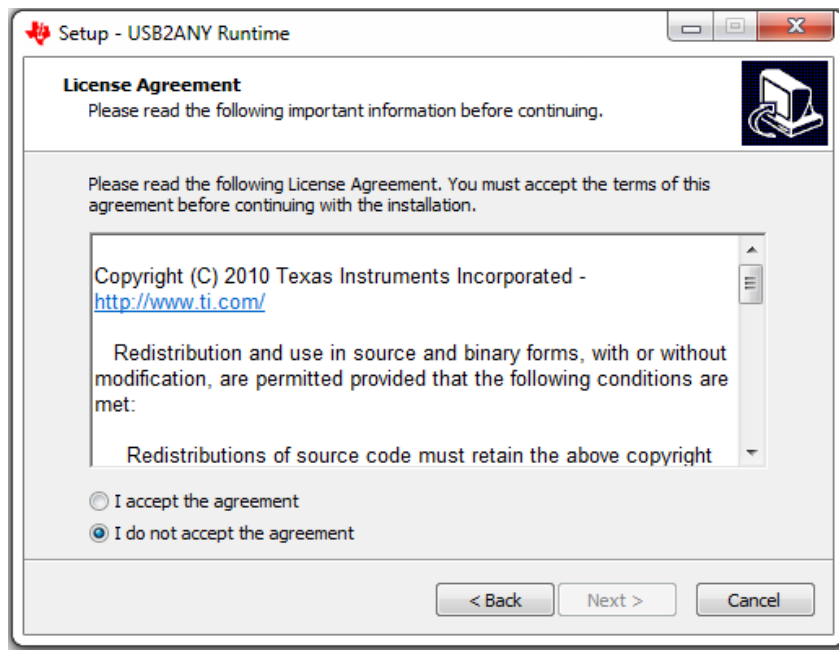

Figure 1-10 License Agreement
9. The License Agreement will appear as shown below in Fig.1-10.